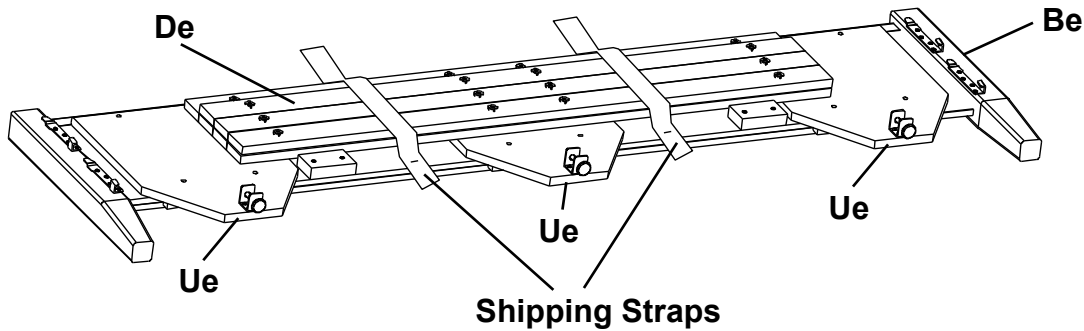

Fig. 1
1. Remove the Trestles (De) and Foot Assemblies (Ue) from the backs of the Footboard (Be) and place them off to the side. See Figures 1 and 1a.